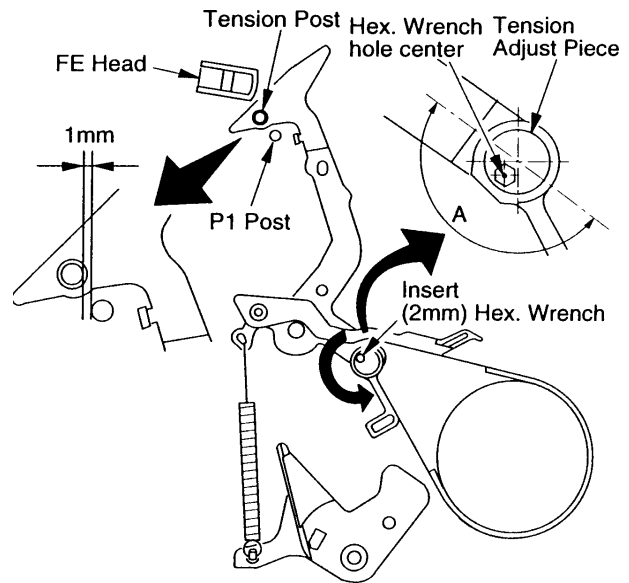

Fig. 2 - Tension Post Adjustment
Tension Post Adjustment (Fig. 2)
1. Refer to the "Service Notes Section" and place the unit in Service Position (1).
6. Using a 2mm hex wrench, adjust the nut on the tension band fastener (counterclockwise only) so that there is 1mm between the right edge of the tension post and the left edge of the P1 post (Fig. 2)